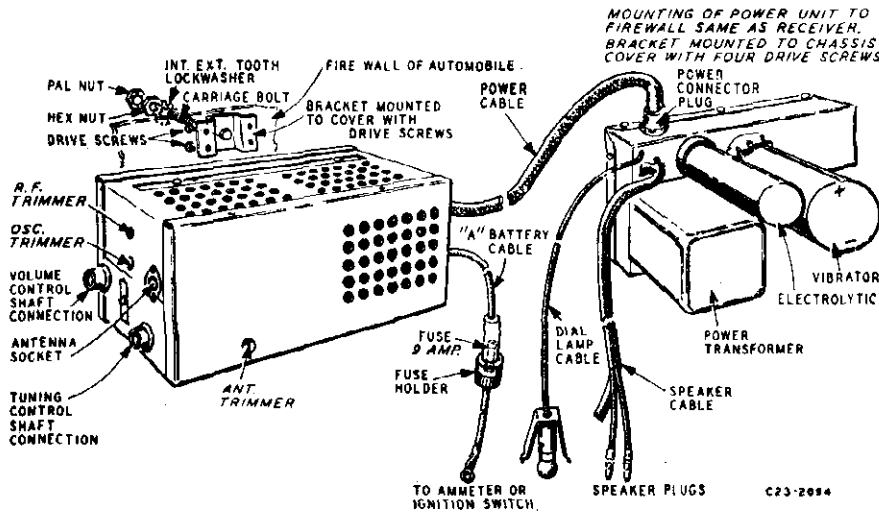

Fig. 1 - Receiver and Power Supply Units
The plug on the antenna cable is inserted in the socket at the side of the radio case as shown in Fig. 1. The wire at the other end of the cable is connected to the antenna.
**IMPORTANT:** — The vibrator unit can be inserted in two ways. The proper method of insertion will depend on which terminal of the car battery is grounded. If the POSITIVE (+) terminal of the car battery is grounded, insert the vibrator as shown in figure 1. If the NEGATIVE (—) terminal of the car battery is grounded, insert the vibrator so that the negative sign on the vibrator is towards the back flange of the power supply unit.
After the antenna is connected, tune in a weak signal at approximately 1600 KC with the volume control about three-fourths on. Turn the adjusting screw of the antenna trimmer (C-2) in or out until maximum output is obtained. See Fig. 1 for location of this trimmer.